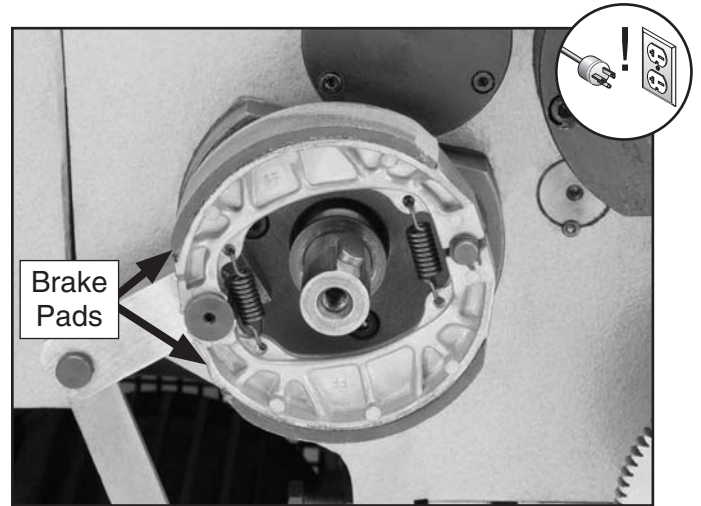

Figure 93. Brake pads exposed.
5. Step off the foot brake to release the brakes, then remove the pulley to expose the brake pads, as shown in **Figure 93**.